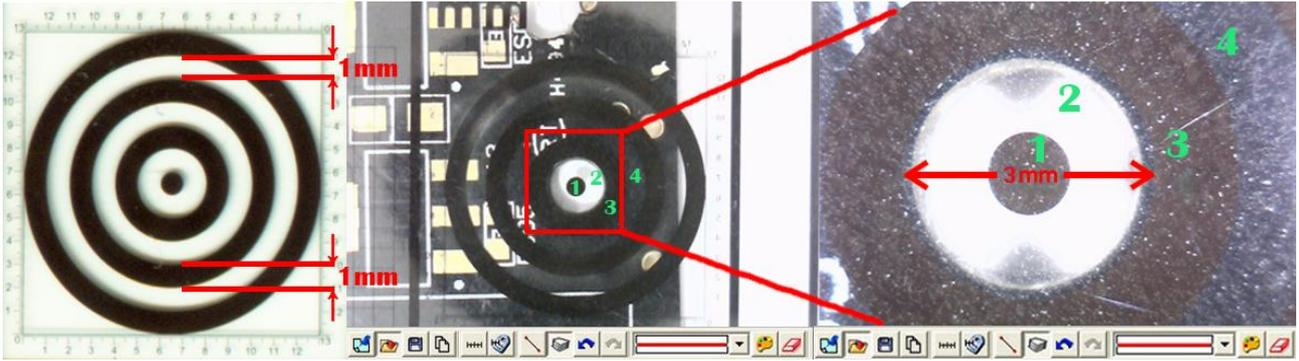

Fig.5-32 Concentric Circles
- a. Concentric Circles: To measure a round hole. Place the Concentric Circles (See above chart a) directly onto PCB drilling hole, the diameter can be measured from the concentric circle scale. Diameter: 3.00mm. See Fig. 5-32.